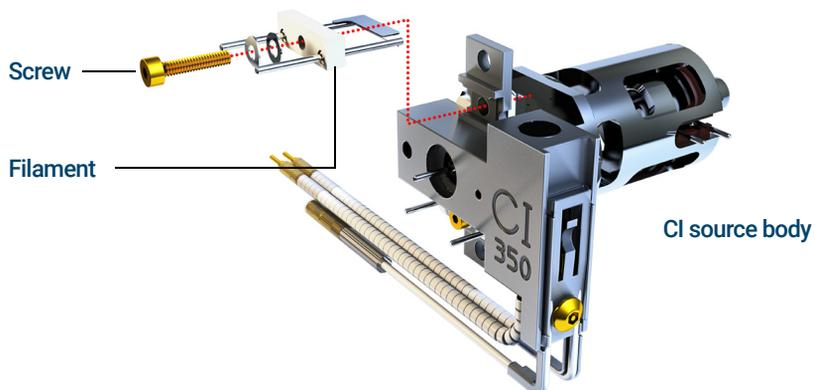

Figure 79. Changing the CI source filament
- 4 Remove the screw holding the filament to the CI source body. (See Figure 79.)
- 5 Slide the filament off the CI source assembly. (See Figure 79.)
- 2 Place the new filament into its position on the ion source body. (See Figure 79 on page 228.)
- 3 Secure the filament to the ion source body with the screw. (See Figure 79 on page 228.)